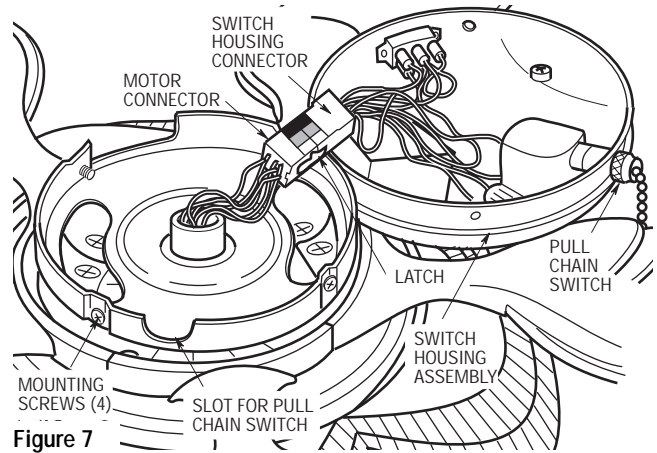
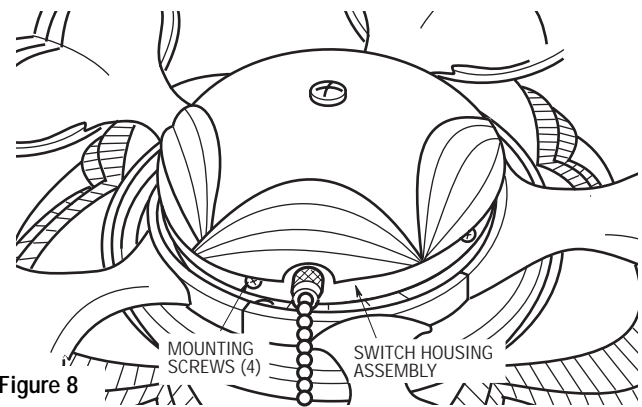

Figure 7
Figure 8
- 11. Engage the connector of the switch housing assembly with the motor connector (Figure 7). The two connectors are keyed and color-coded and must be mated correctly (color-to-color) before they can be engaged. Make sure the connector latch closes properly.
- 12. Remove the four mounting screws from the switch housing plate (Figure 7). Position the switch housing assembly on the switch housing plate and secure using the four mounting screws (Figure 8).
NOTE: The switch housing assembly must be oriented so that the pull chain switch will fit into the rounded slot (Figure 7) in the switch housing plate.